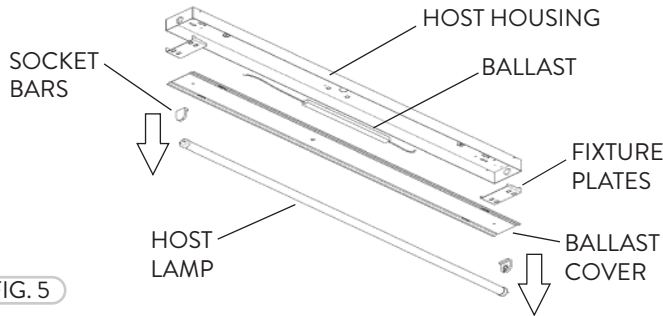

FIG. 5
- 1 Shut off the power to the existing fixture. Disconnect the white and black power supply wire to the existing ballast. Remove and discard the host fixture lamp(s). Remove ballast cover, ballast, fixture plates, socket-bars and wiring (Fig. 5).